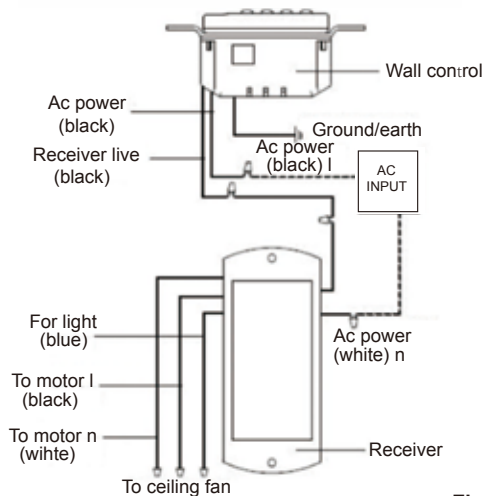

Fig. 33
Step 2. Make the electrical connections as shown in Fig. 33. If your outlet box has a ground wire (Green or Bare Copper) connect the transmitter's ground wire directly to one of the screws from the outlet box. Secure all wire connections with the plastic wire nuts provides.